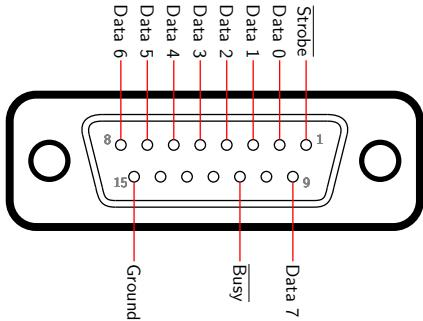

Figure 3.1: DB-15 male connector (solder side).
1. Solder the pins of the male double-row DB-15 connector as shown in Figure 3.1. Note that the pin numbers shown in the diagram are for the solder side of the connector.